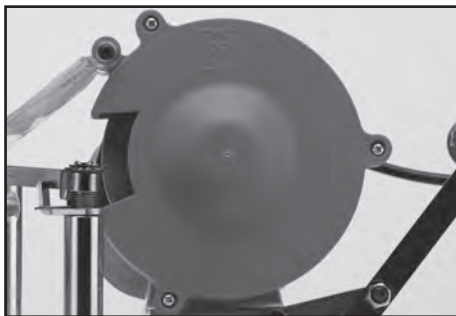

FIG.16
### 10.1 REPLACING THE GRINDING WHEEL – FIG.16
- Remove the 3 screws from the grinding wheel cover (FIG.16).